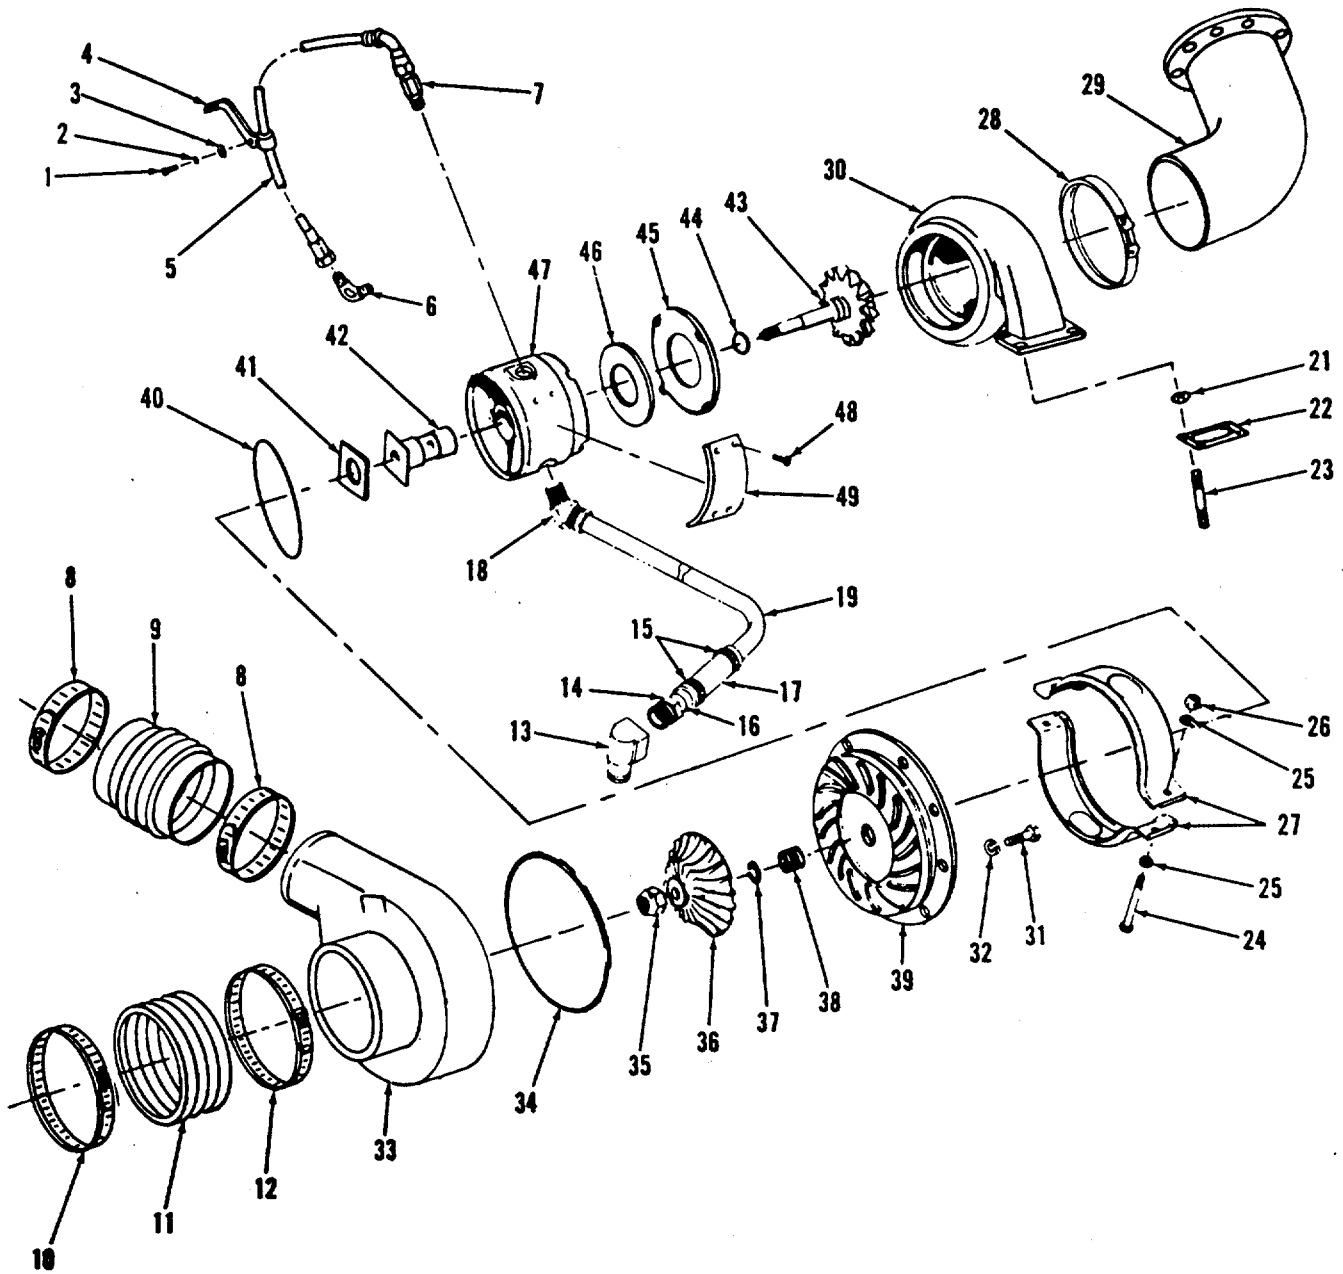

Figure 13-27. Turbocharger, Exploded View, Code A
- (47) The reassembled fuel pump should be tested and calibrated in accordance with paragraph a and replaced in accordance with paragraph d.
- 13-15. TURBOCHARGER (Code A). To repair the turbocharger, refer to figure 13-27 and proceed as follows:
LEGEND FOR FIGURE 13-27